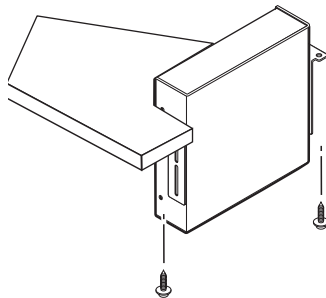

Figure 2-9 — Through-desk mounting
4. Using the four wood screws provided, attach the brackets to the mounting surface, as shown in figure 2-9.